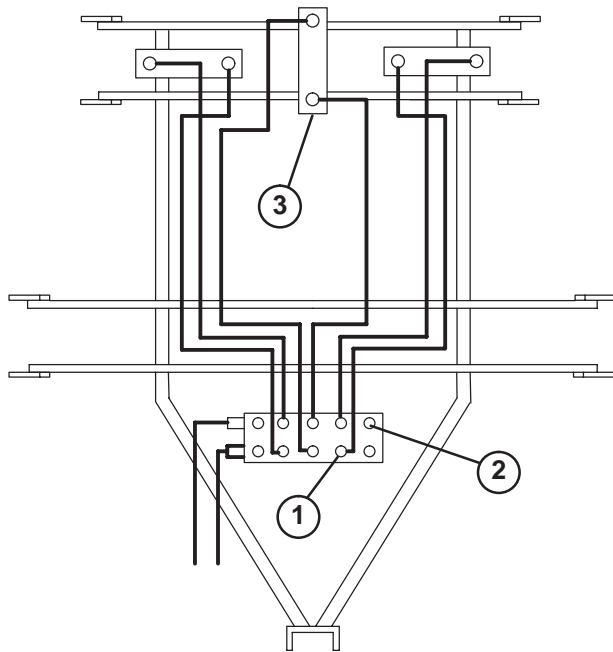

Figure 33
4. Disconnect hydraulic hoses connected to front row of control valve, Row "A" (Fig. 33). Drain each hose into drain pan and reconnect to valve.
5. Disconnect hydraulic hoses connected to back row of control valve, Row "B" (Fig. 33). Drain each line and cylinder by carefully pulling down lift arms until all fluid is pumped out of hoses and cylinders and into drain pan. Reconnect hoses to control valve.